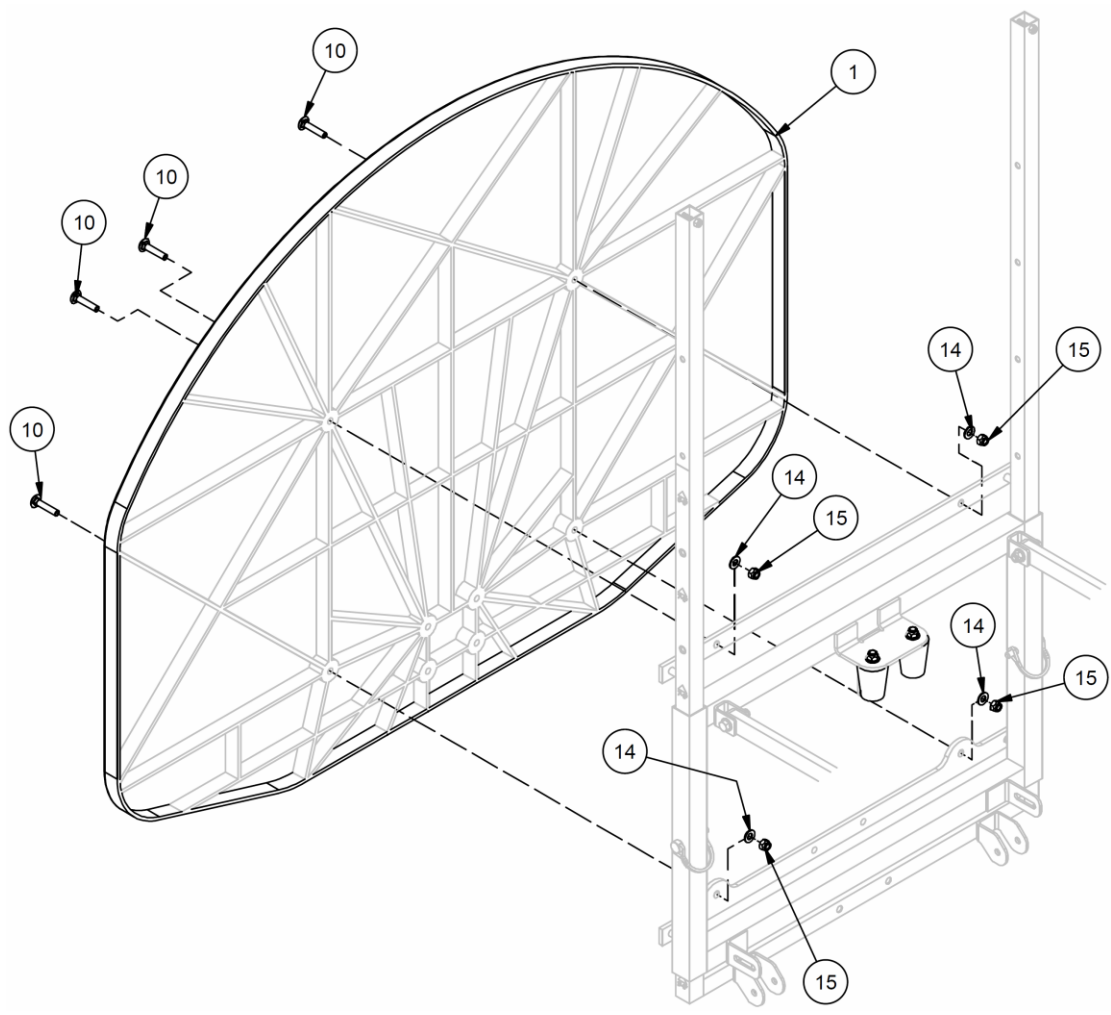

Figure 6 (Backboard Assembly)
- 8) Install the backboard onto the front frame (see Figure 6).